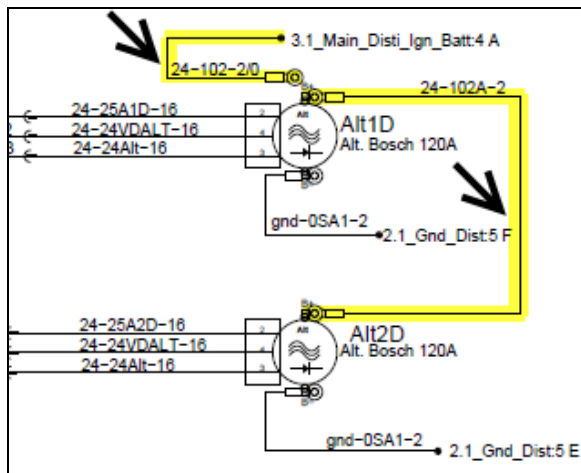

Figure 1
- On the **alternators positive (+) stud terminal** and from there, up to Bussman junction block in the electrical compartment (Figure 1, Figure 2, Figure 3).